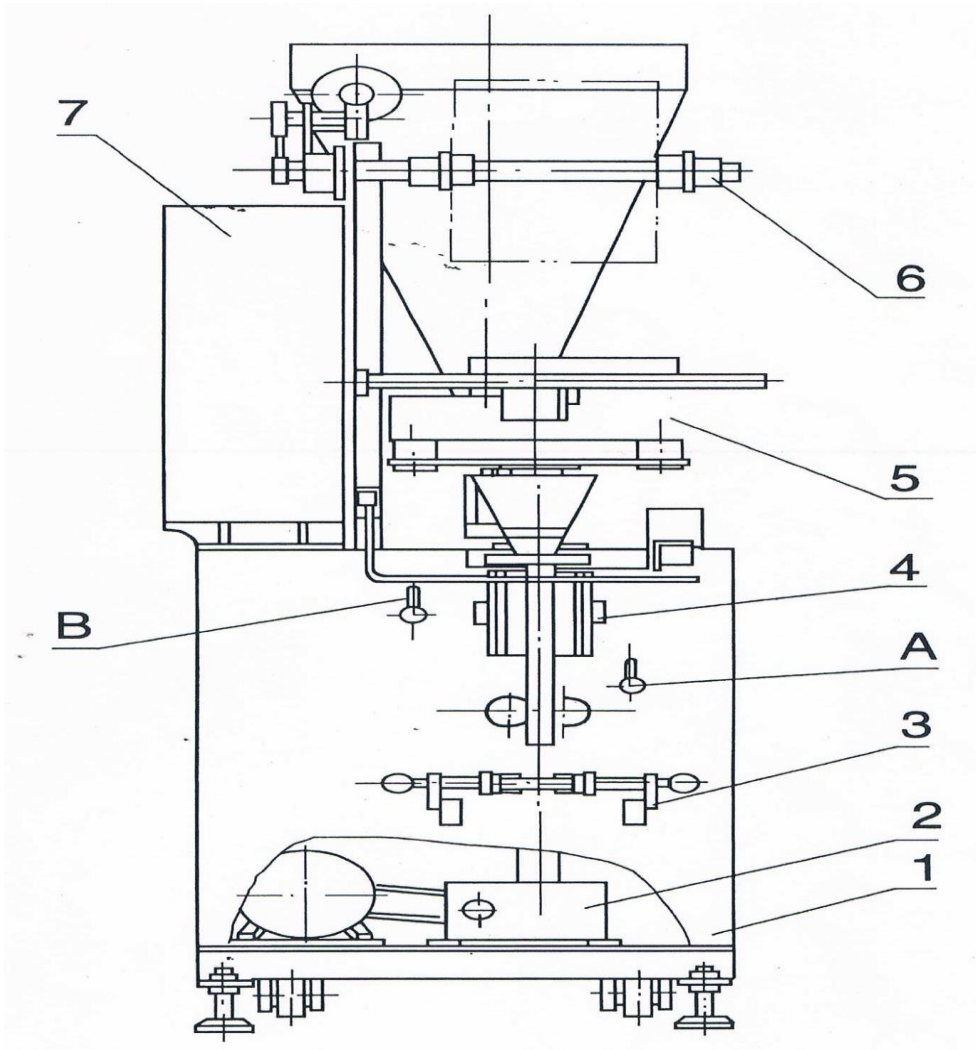

Figure 1、 Profile structure chat
3、 In the figure 1, A is the handle of switch film wheel for On or Off; B is the control handle for the wheel clutch.